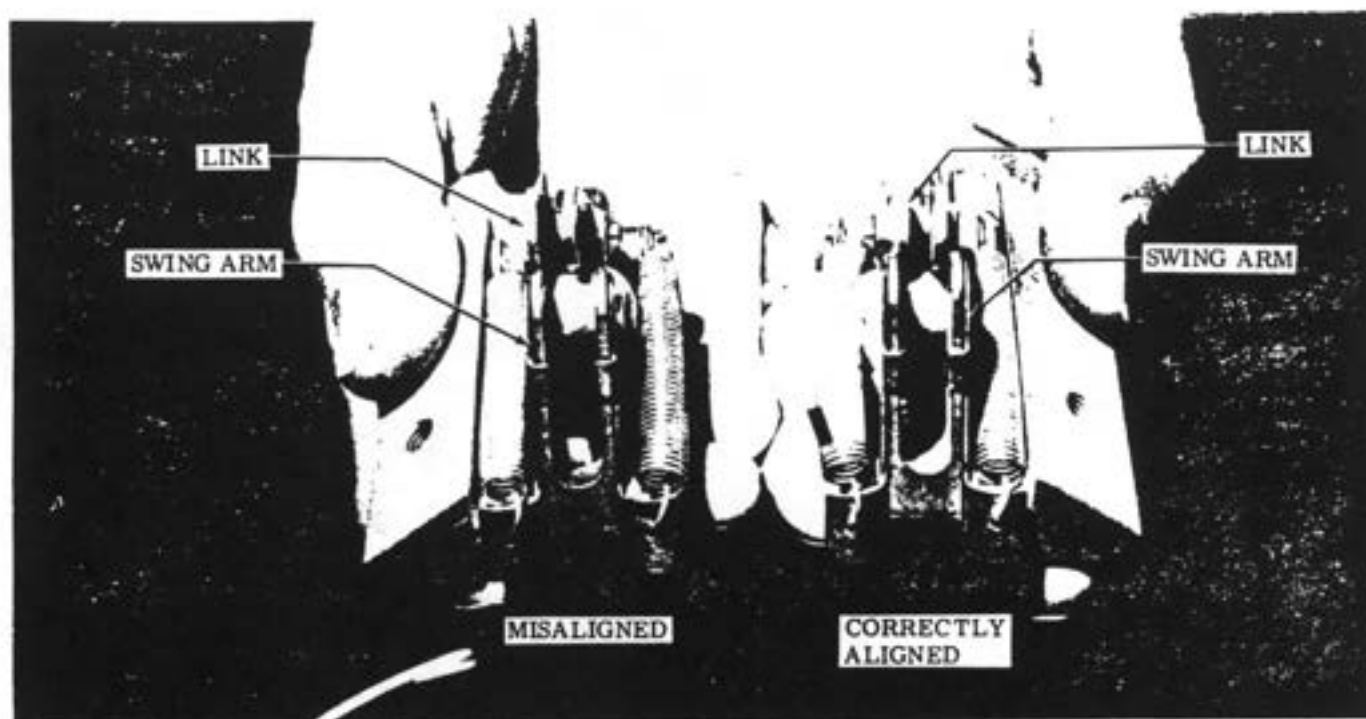

Figure 5-12. Misalignment of Lock Mechanism Components
1. Adjust downlocks (8) as follows: Manually trip locks to "locked" position. If binding occurs, check for misalignment of components as illustrated in figure 5-12. Using tool #SE997-3, check for over-center linkage to be .02-inch overcenter (refer to view A-A). When using tool #SE997-3, clearance should be more than .01-inch, but less than .03-inch. After adjustment has been made, apply Loctite Catalog No. 87 to eccentric spacer (16 - Detail D).